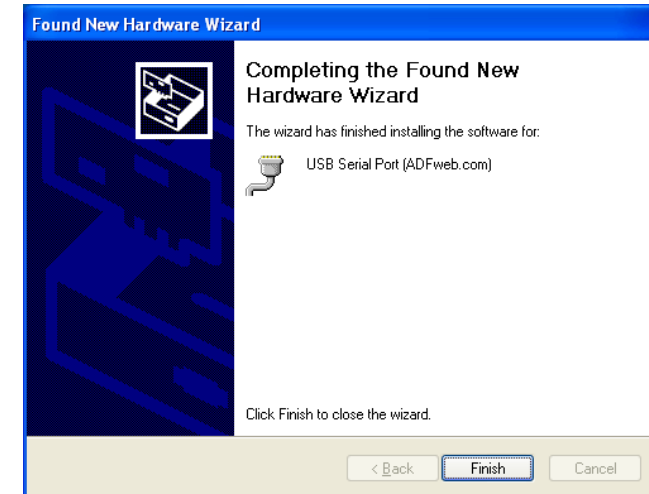

Figure 10: "Found New Hardware Wizard" window
9. The installation of the USB Serial Port (ADFweb.com) drivers is finished (Fig. 10).